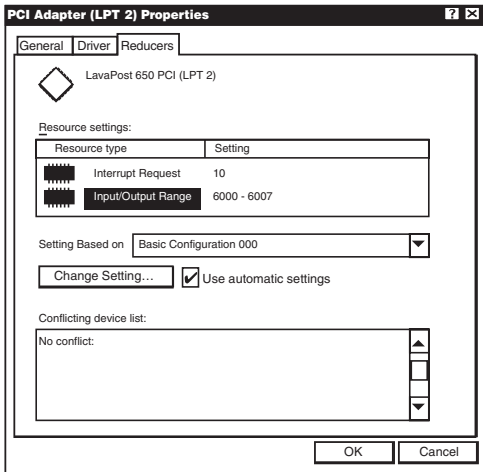

Figure 4-2. Properties Screen, Resources tab.
1. Open Control Panel→System→Device Manager and find the appropriate listing under Ports. Click Properties, and proceed to the Resources tab. The screen shown in **Figure 4-2** will appear.
The Input/Output Range an Interrupt of your particular configuration may differ from the one in **Figure 4-2**.